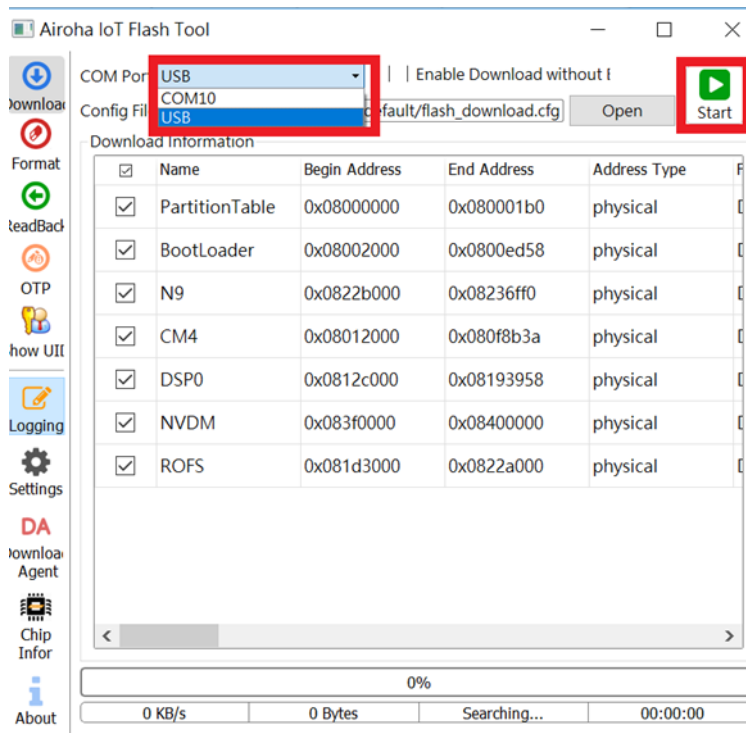

Figure 5-3. Airoha IoT Flash Tool
3. Make sure the **COM Port** is set to “UART” or “USB” and then click Start. See Figure 5-3. This stops the Airoha IoT Flash Tool.